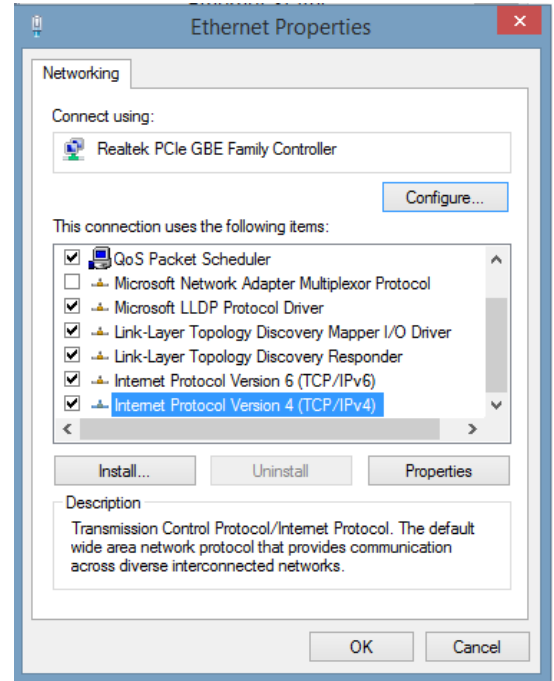

Fig. 2-29, Local Area Connection Properties Screen, Windows® 10
6. A dialog box much like **Fig. 2-29** will pop up. Click **Internet Protocol (TCP/IPv4)** and then click the **Properties** button.